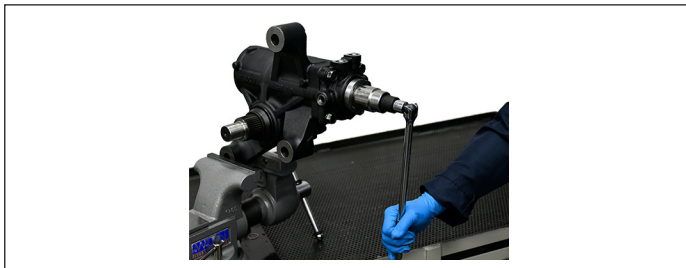

Figure 7 - Torquing the O-ring
14. See Figure 7. Carefully push the threaded ring over the input shaft and, with the threaded-ring socket and a wrench, torque the threaded ring to 226-245 N•m.